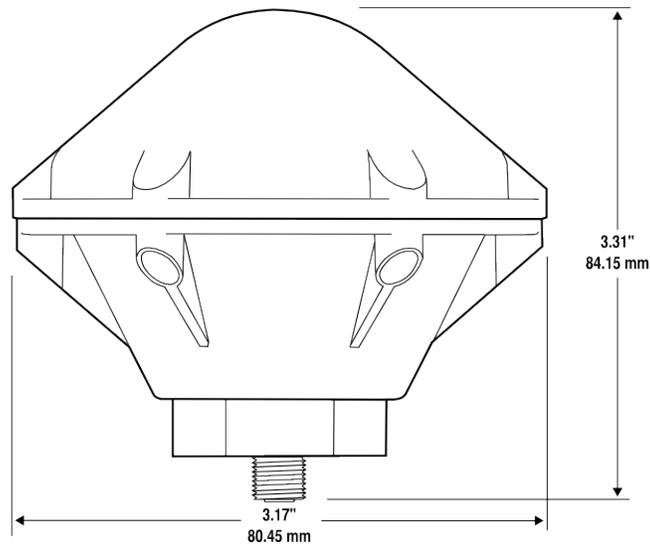

Figure 2: GPS Antenna Dimensions
Figure 2 illustrates the Arbiter GPS antenna with physical dimensions.
3. Feed the ends of the U-bolt through the appropriate holes on the mounting bracket, as shown in Figure 2. Note: For mounting surfaces that are not perfectly horizontal or vertical, refer to the section describing angled mounting.